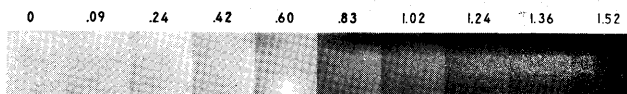

Fig. 9
- a. **Without** a filter over the camera lens, photograph the paper gray scale (Figure 9) supplied with the Analyzer. To determine the exposure, cover the gray scale with a white card illuminated the same as the gray scale will be. Measure the brightness of the white card with an exposure meter. The exposure obtained should be increased five (5) times when photographing the gray scale. The simplest way to do this is to set your exposure meter film speed at one-fifth the rated value and then proceed in the normal manner.